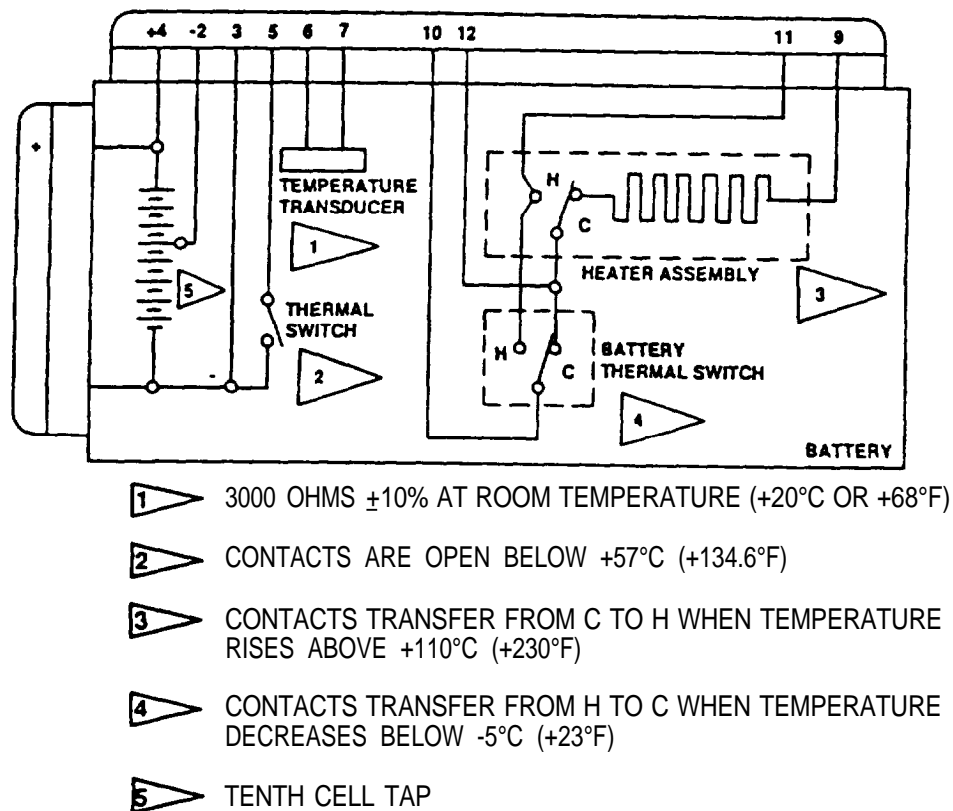

Figure 3-3. Battery BB-564/A Wiring Harness, Wiring Diagram.
8. AIRCRAFT BATTERY FAULT INDICATOR LIGHTS (BB-564/A and BB664/A) (figs. 3-3 and 3-4).
8. AIRCRAFT BATTERY FAULT INDICATOR LIGHTS (BB-564/A and BB-664/A) (figs. 3-3 and 3-4) (cont).